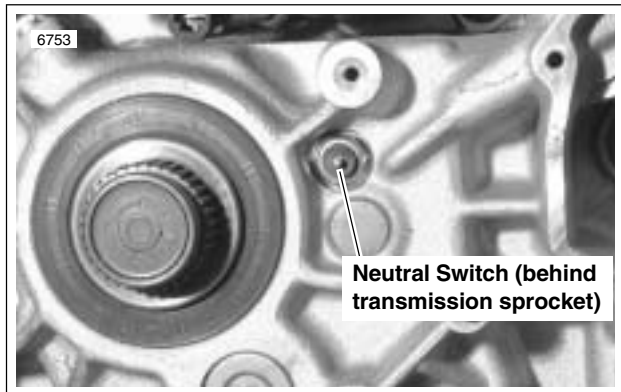

Figure 4-28. Neutral Switch
- By placing the motorcycle in neutral and grounding the relay through the neutral switch. See Figure 4-28.